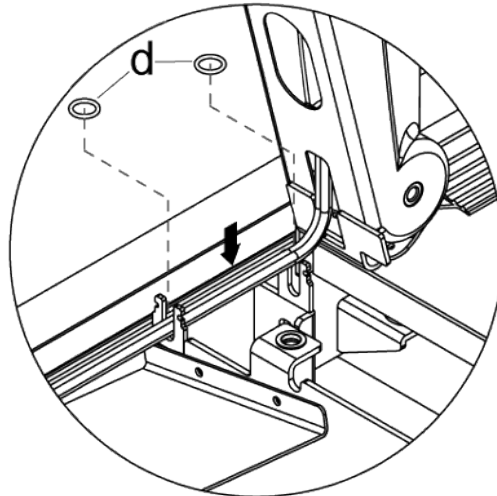

Fig 3-1-1
a) Route the cables exiting from Pedestal – R into cable restraints and secure with two O-rings (d) as shown in Fig. 3-1-1 to the left. Eliminate any slack in cables to ensure they are not pinched when pedestals are upright.